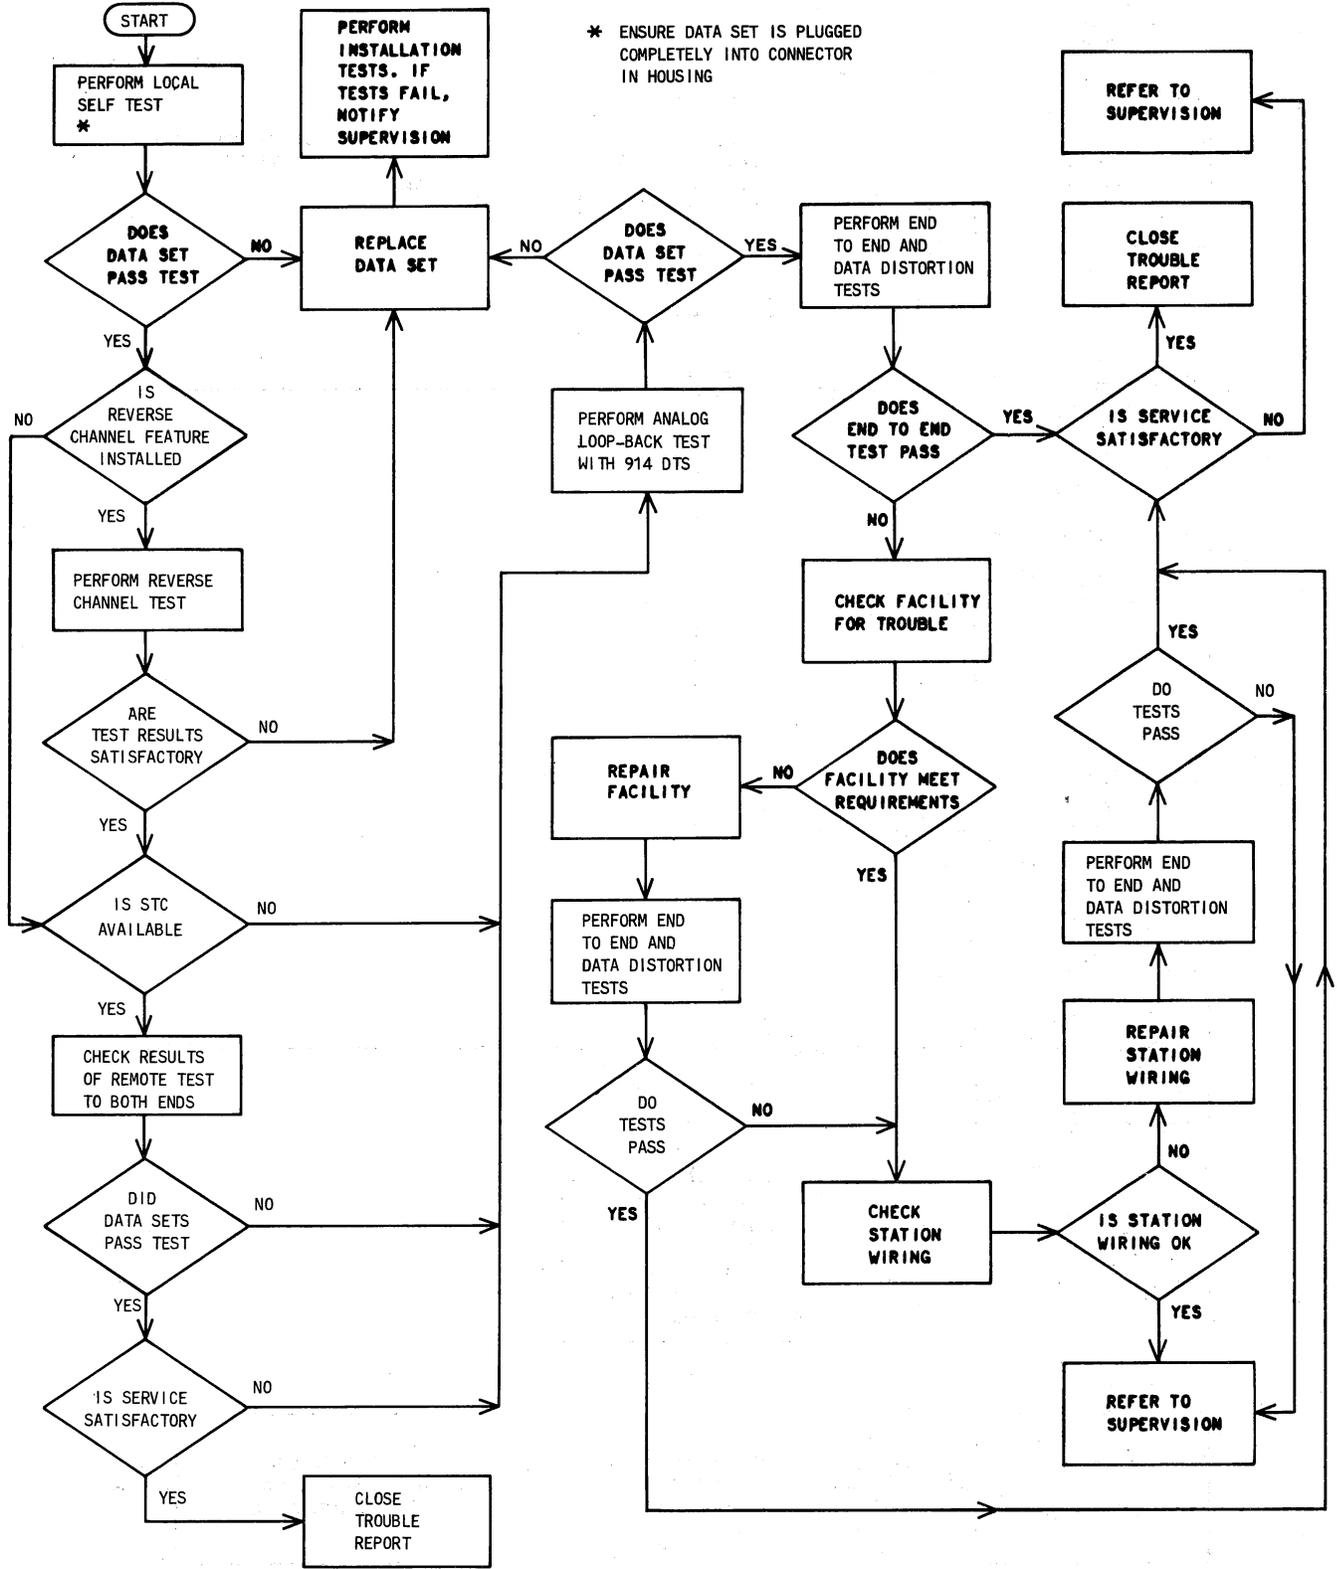

Fig. 5—2-Wire Maintenance Test Sequence
3.05 This part provides the sequence in which tests are to be performed during a trouble visit. The procedure provides a method of isolating a trouble to either the data set or the transmission facility. It is assumed that the maintenance procedures outlined above have been followed prior to dispatching the craft employee. Refer to Fig. 5 for the sequence of tests to be performed for a 2-wire data set and to Fig. 6 for the sequence of tests to be performed for a 4-wire data set.